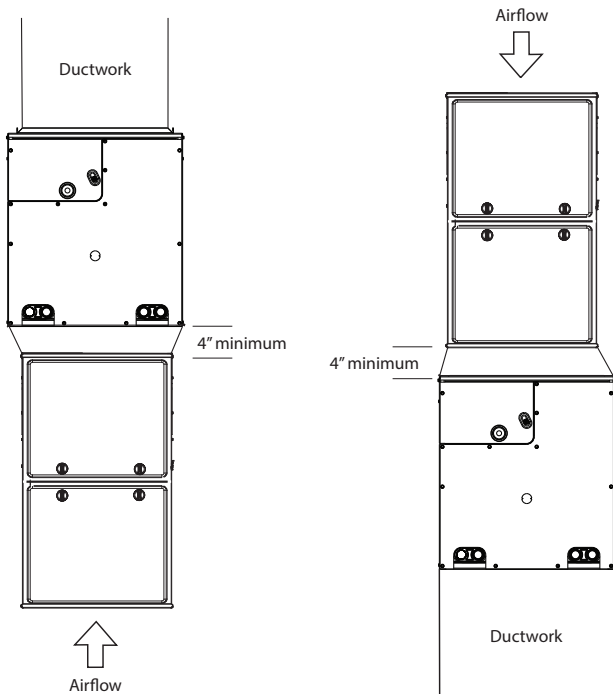

Fig. 3 – Adapter(s) Installation When Coil Overhangs Furnace
3. When installing a wider coil on a narrow furnace, create a field fabricated adapter (see Fig. 3).